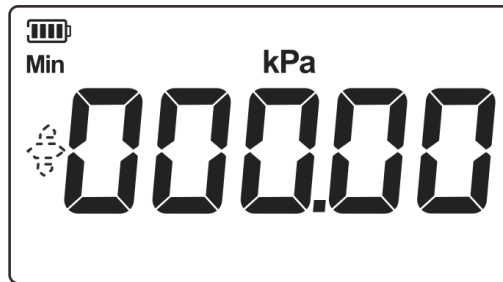

Figure 14 Lower limit calibration point
1. Display the lower limit calibration point, as shown in Figure 14, the identifier area displays Min to indicate the lower limit of calibration. The display area displays the calibration point being edited, and the focus position will flash. Short press Right button to move the focus position, short press Down button to adjust the value, short press Enter button to confirm the current calibration point and go to lower limit display.